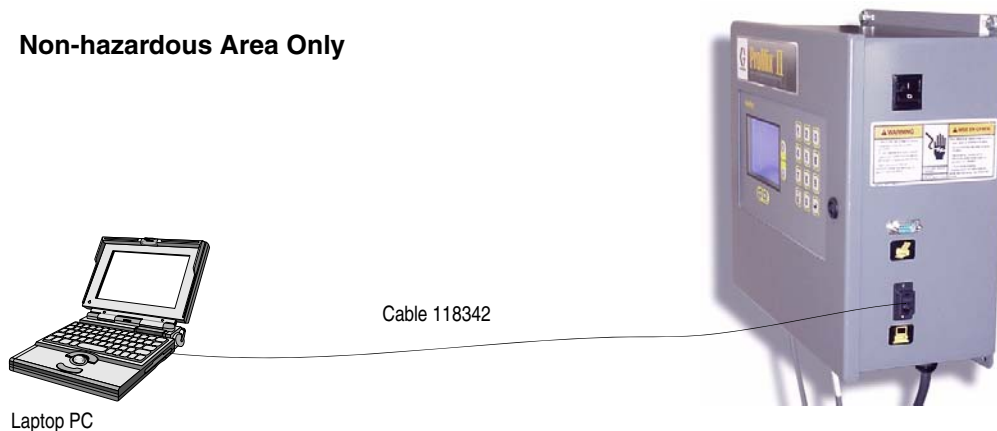

FIG. 24
Connect RS-232 cable 118342 between the EasyKey™ Display connector (A) and your PC COM1 port. See FIG. 24.